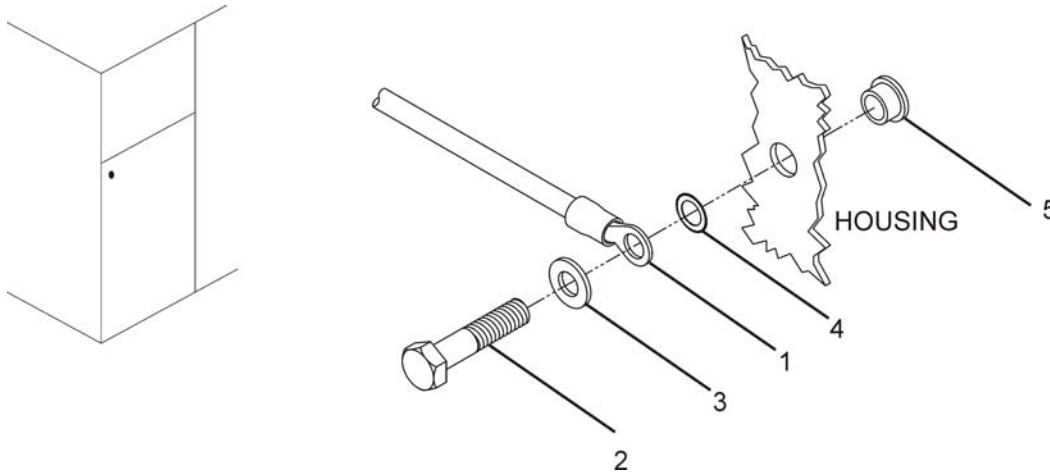

Figure 4. Unit Grounding Lug
Unit Grounding Lug (Figure 4)
1. Disconnect grounding lug (1, figure 4), by removing screw (2), flat washer (3), and star washer (4) from rivet nut (5) on unit housing.
3. Install lower housing plate (4) onto housing and secure with five screws (3).
4. Connect unit grounding lug (1, figure 4) to unit housing with star washer (4), flat washer (3), and screw (2).